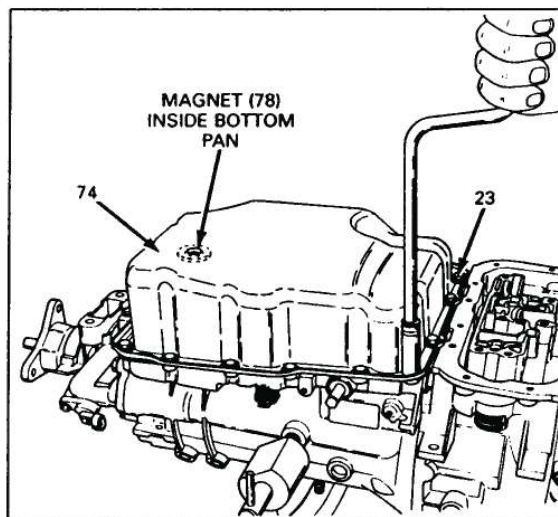

Figure 134
See Figure 134 for location.
25. Torque the 16 bottom pan bolts using a 10mm socket, to 9 ft.lb. as shown in Figure 134.